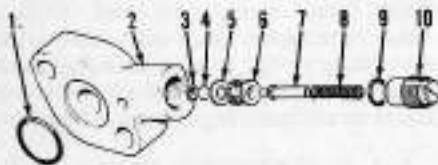

Fig. 210—Exploded view of air relief valve.
**372. AIR RELIEF VALVE.** Air relief valves are used for front mounted pump systems between hydraulic pump and oil pressure relief valve. Its function is to remove any air from hydraulic system. Steel ball (4—Fig. 210) is held off seat (6) by plunger (7) and spring (8). In this position air is allowed to pass into reservoir. When system is operating, oil and any air in system is pushed into air relief valve. Air, having little pressure, goes past steel ball and into reservoir. Oil, having pressure, pushes steel ball on to its seat.